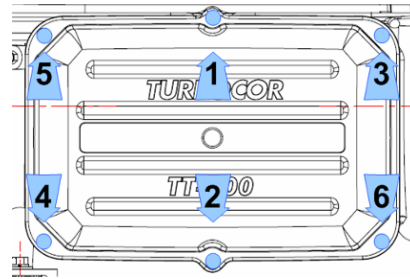

Figure 3 –Service Side Cover Torque Sequence
2. Install the new Service Side Cover and secure it with the (4) new captive screws. Tighten the screws according to the following sequence in Figure 3 (Service Side Cover Torque Sequence).